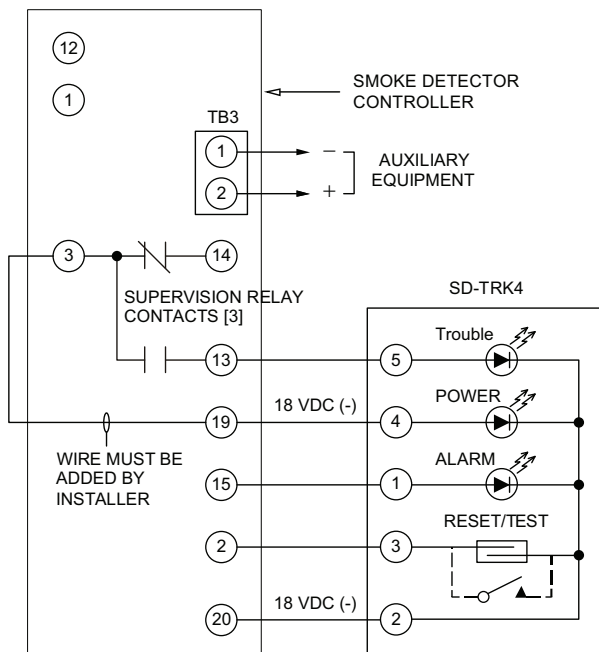

Fig. 57 — Remote Test/Reset Station Connections
The test/reset station dirty sensor test checks the test/reset station's ability to initiate a sensor dirty test and indicate the results. It must be wired to the controller as shown in Fig. 57 and configured to operate the controller's supervision relay. For more information, see "Changing sensor dirty test operation."
1. Verify that the remote test/station is wired as shown in Fig. 57. Repair or replace loose or missing wiring.